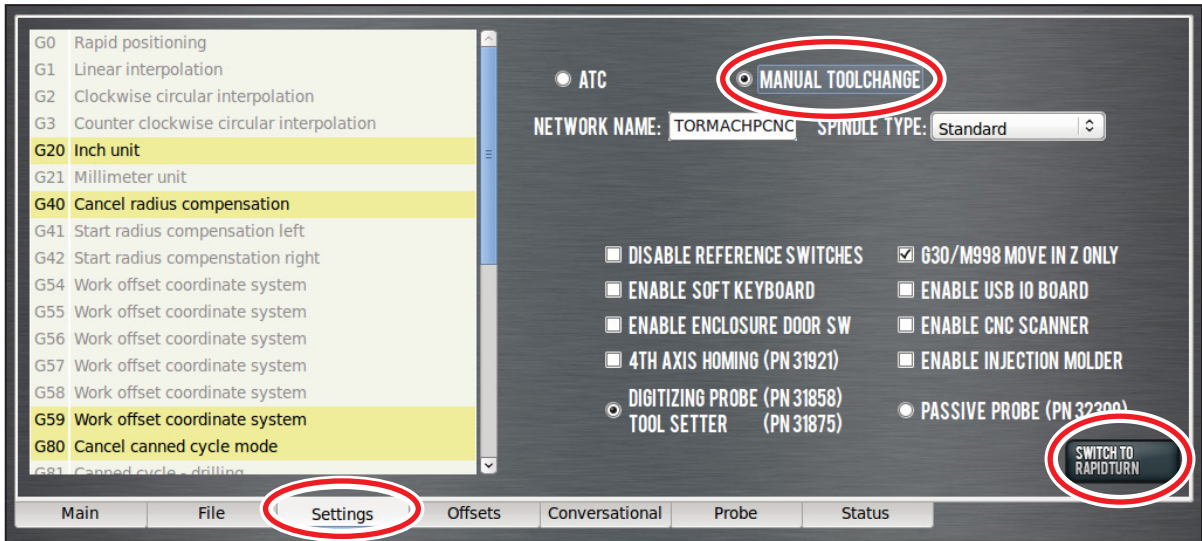

Figure 2.2
2. In the PathPilot® interface, click *Manual Tool Change* on the *Settings* tab (see **Figure 2.2**).
3. Click *Switch to RapidTurn* (see **Figure 2.2**). This closes mill's PathPilot interface and opens RapidTurn's PathPilot interface. For more information on switching from mill operation to RapidTurn operation, refer to chapter 3, *Operation*.